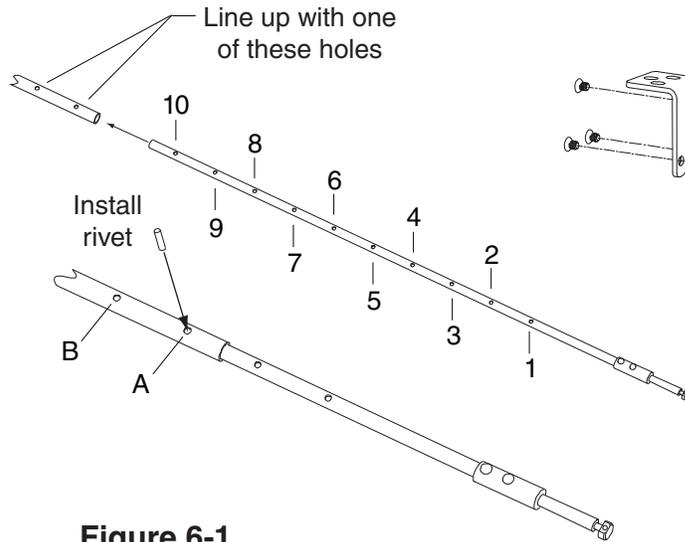

Figure 6-1
- Rivet two-piece top rod together. Align holes according to door height (Figure 6-1). Rod length for a 7-foot door is approximately 38½". Top rod sections are longer than bottom rod sections.